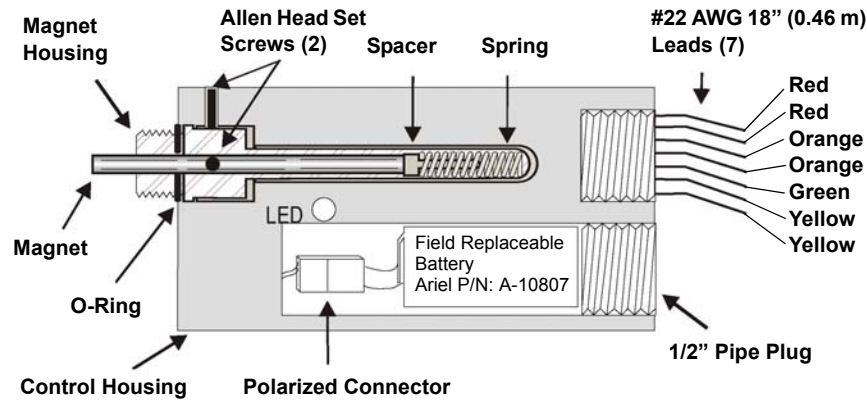

FIGURE 4-19: DIGITAL NO-FLOW TIMER SWITCH - (DNFT)
When an Ariel DNFT is a microprocessor-based switch is supplied, it is used to sense no-flow or slow-flow conditions in the compressor cylinder lubrication system to facilitate alarm and/or shutdown. The DNFT also contains an amber light-emitting diode (LED) cycle indicator to provide a positive visual indication of system operation. The Ariel DNFT includes a proximity switch. The Ariel DNFT, usually supplied, is factory set for (3) three minutes from no-flow to alarm/shutdown signal and is not adjustable. Optional programmable models are also available. Introduced in September of 1996, the DNFT replaced the traditional mechanical no-flow switch and is optional on all new units. Since its introduction, the DNFT has undergone a series of design enhancements and several versions are in service. The current DNFT is shown in Figure 4-19: